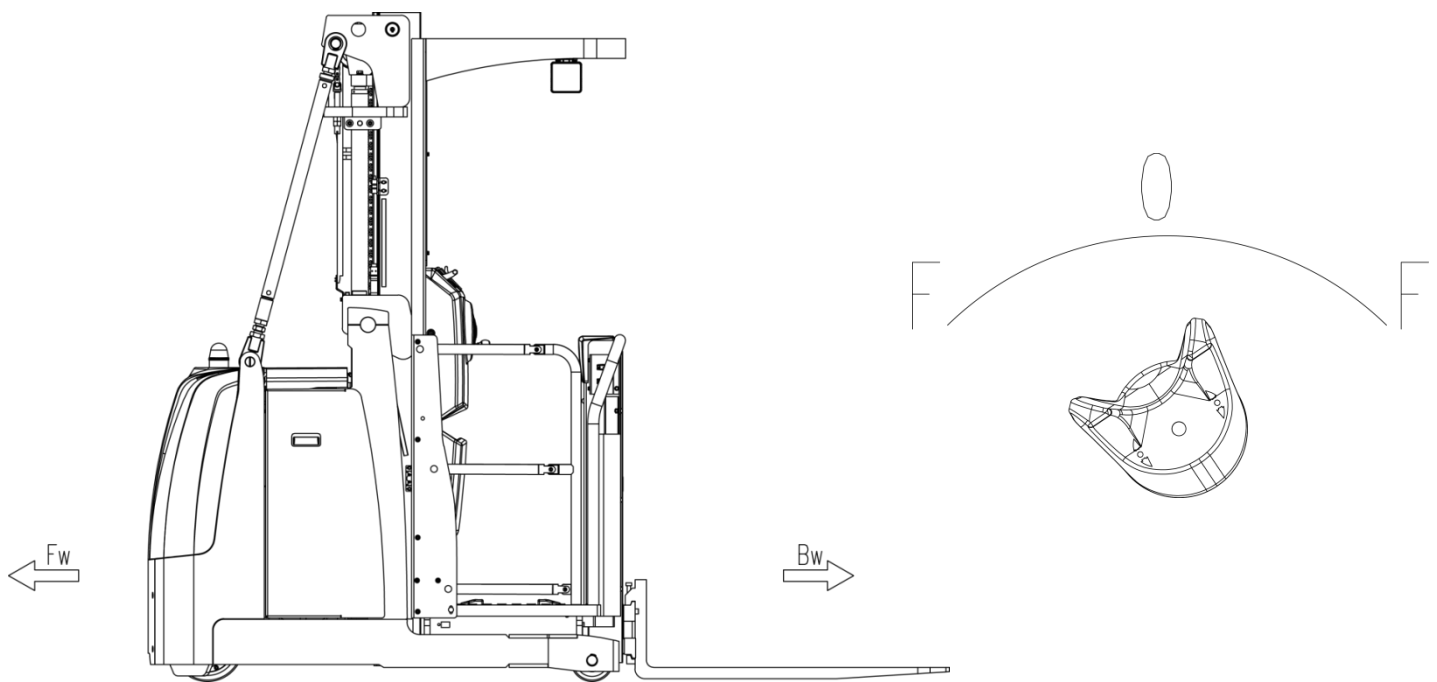

Figure 14.Operation diagram
- Move to the '0' position through the accelerator (Figure 14) or release the button, the regenerative braking is activated, and the truck brakes until it stops.